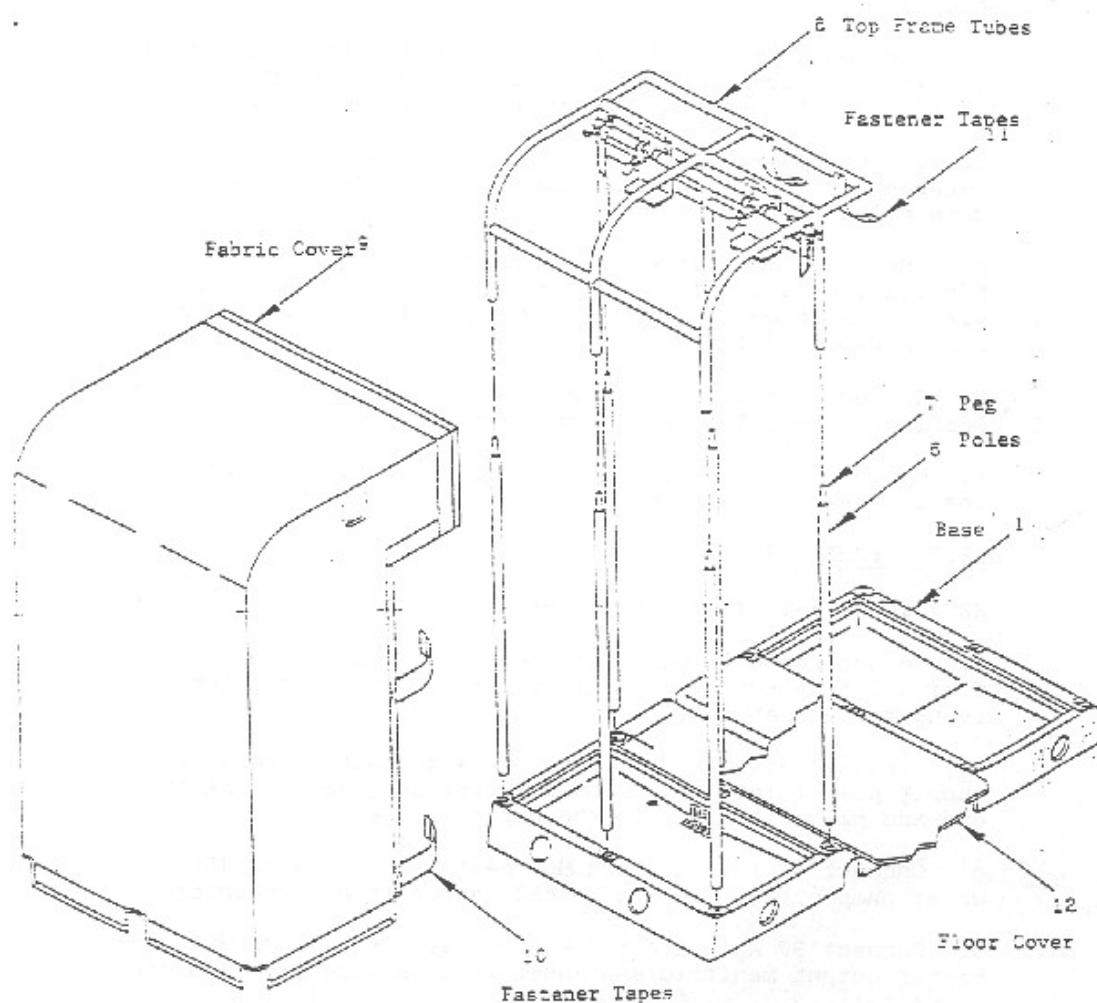

Figure 3-10
- 5. Set up shower frame assembly (See Figure 3-10 within Task 101-92S-1027)
- a. Install six vertical support poles (6) with peg (7) facing upward in one of the middle base assembly (1).
- b. Position top frame assembly (8) over vertical support poles with overhang toward the center. Align the pole pegs with top frame tubes and lower until firmly seated.
- c. Position fabric cover (9) over the top frame assembly. Pull fabric cover down and secure to vertical support poles using hook and fastener tapes (11). Secure cover to base assembly with hook and fastener tapes (10). Repeat steps (a) through (c) for the remaining middle base assembly.
- e. Position shower floor cover (12) over central walkway and secure with faster tapes.
5. Disassemble the six shower top frame assemblies. (See Figure 3-10)